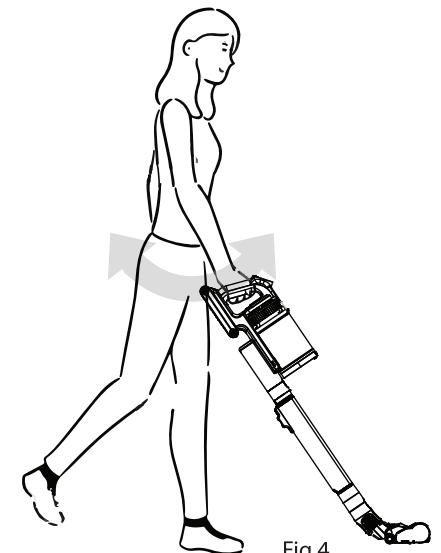

Fig 4
2. Use a pendulum motion to swing your arm forward and back, slightly turning the handle to change direction (Fig 4).